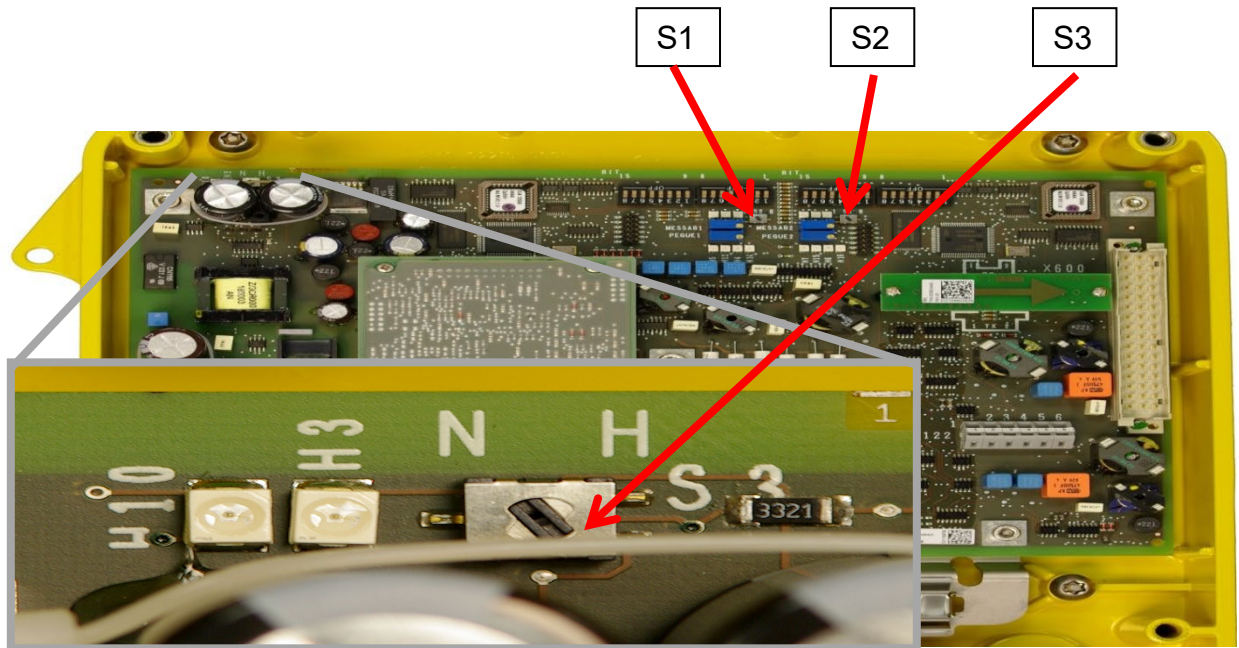

Figure 4 – Inside of the EAK
- The switches S1 and S2 shall be set to position 1 to activate the electrical adjustment. S3 should be set to H (For High), see Figure 4.